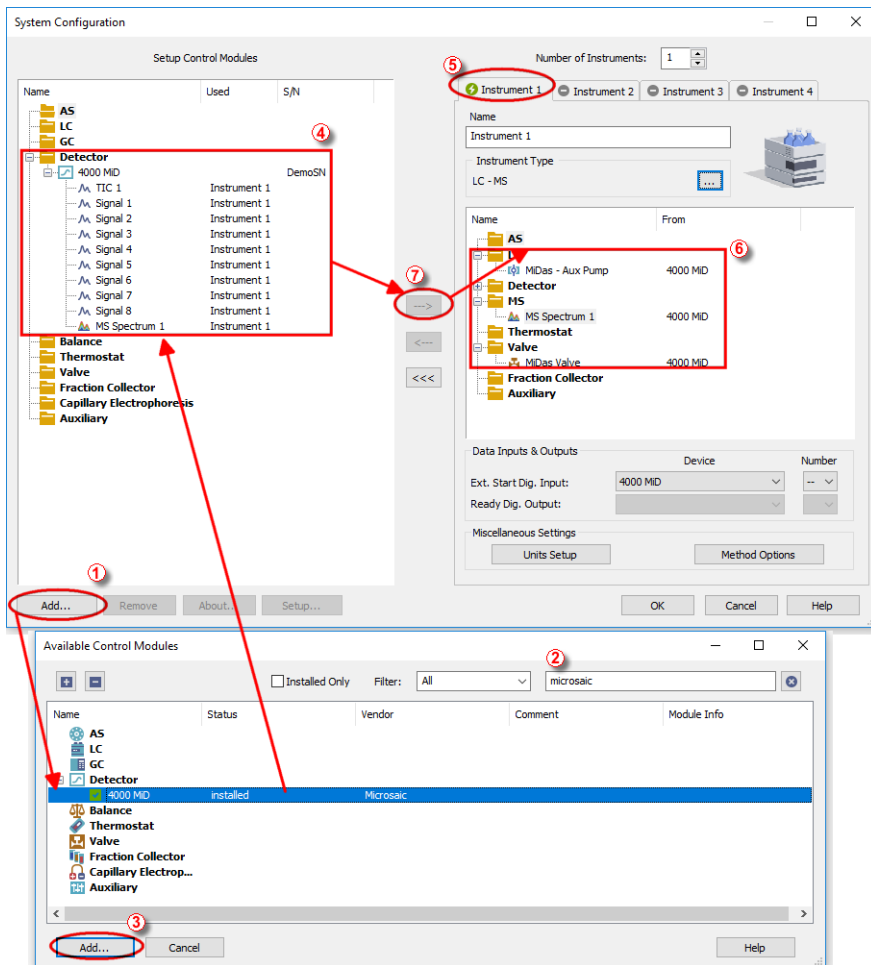

Fig 2: How to add Microsaic 4500 MiD
- Press the **Add** button ① (see **Fig 2** on pg 4.) to invoke the **Available Control Modules** dialog.
- You can specify the searching filter ② to simplify the finding of the driver.
- Select the **4500 MiD** and press the *Add* ③ button.